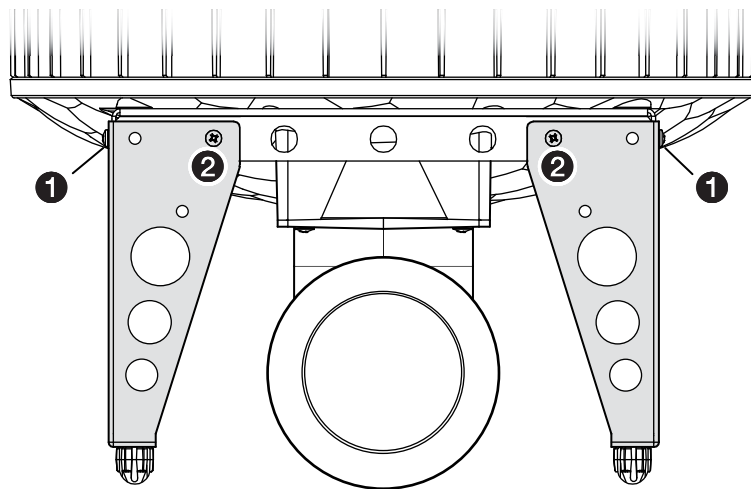

Figure 5. Installing a Floor Mounting Kit
2. Fasten two feet to each installation bracket using the provided screws and locking nuts, two on one side of the foot (see figure 5, **1**), and one on the other side (**2**).